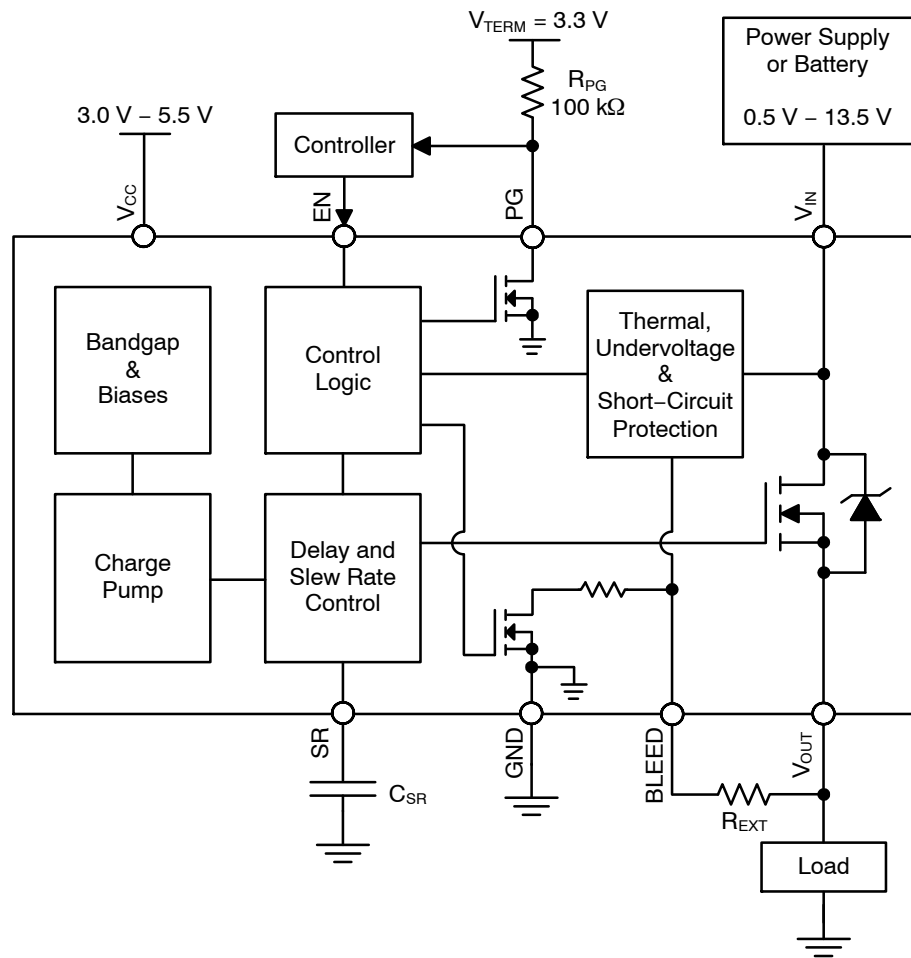
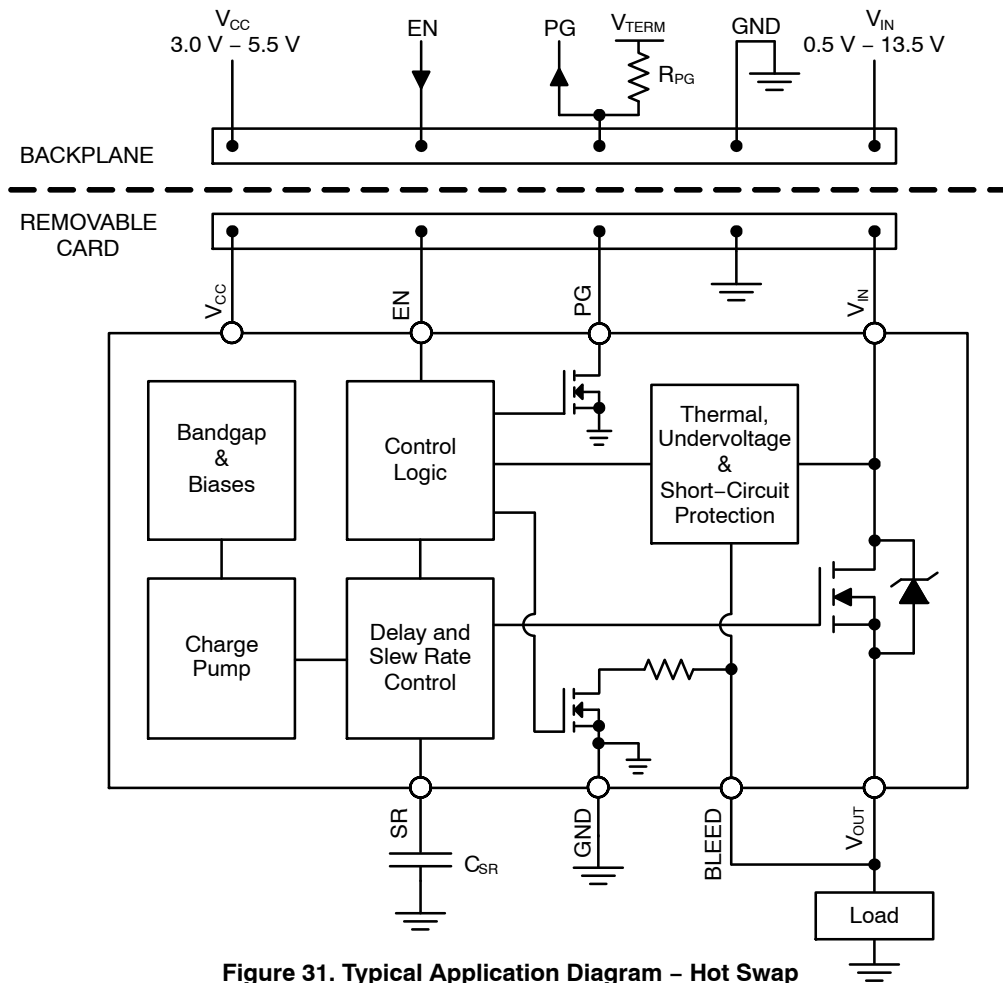

Figure 30. Typical Application Diagram – Load Switch
Figure 31. Typical Application Diagram - Hot Swap
It is required that the BLEED pin be connected to V_{OUT} either directly (as shown in Figure 31) or through an external resistor, R_{EXT} (as shown in Figure 30). R_{EXT} should not exceed 1 k Ω and can be used to increase the total bleed resistance.
The NCP45540 devices have a power good output (PG) that can be used to indicate when the gate of the MOSFET is fully charged. The PG pin is an active-high, open-drain output that requires an external pull up resistor, R_{PG} , greater than or equal to 1 k Ω to an external voltage source, V_{TERM} , compatible with input levels of other devices connected to this pin (as shown in Figures 30 and 31).
The slew rate can be decreased with an external capacitor added between the SR pin and ground (as shown in Figures 30 and 31). With an external capacitor present, the slew rate can be determined by the following equation:
Once active, the circuitry monitors the difference in the voltage on the V_{IN} pin and the voltage on the BLEED pin. In order for the V_{OUT} voltage to be monitored through the BLEED pin, it is required that the BLEED pin be connected to V_{OUT} either directly (as shown in Figure 31) or through a resistor, R_{EXT} (as shown in Figure 30), which should not exceed 1 k Ω . With the BLEED pin connected to V_{OUT} , the short-circuit protection is able to monitor the voltage drop across the MOSFET.